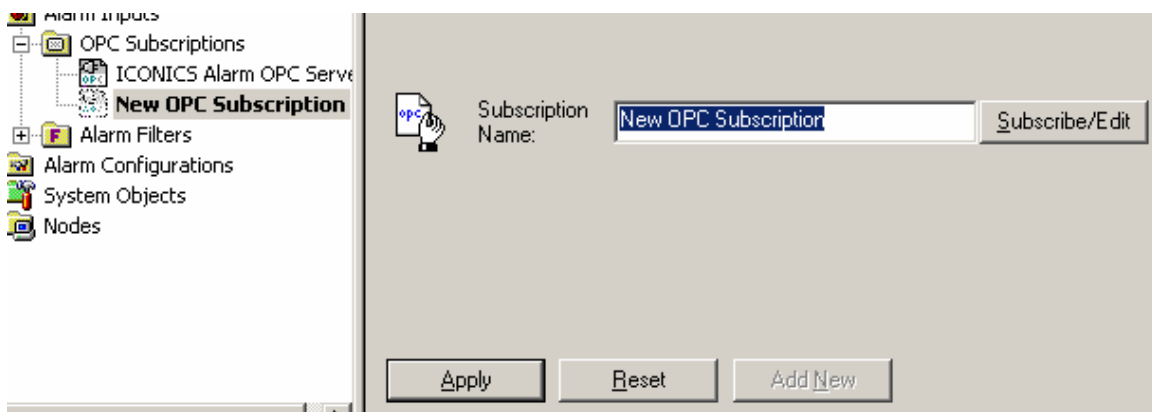

Figure 2.2. Naming the New Subscription
2. Type in the new subscription name, as shown in **Figure 2.2**.